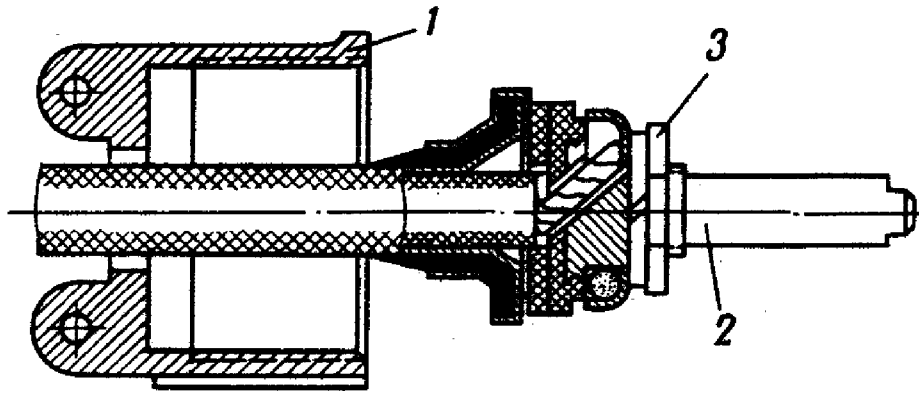

FIG.11. SOCKET PLUG
14. Clean the generator of oil and dirt. Check it for attachment and tightness of the clamping stud nuts. On the 3WL-131 truck check the tightness of nuts 3 (Fig.11) of the contact plugs. To this end, unscrew special union nuts 1 of the connector, remove contact plugs 2 and check the plugs for tightness. If the plugs show rocky motion, tighten nuts 3.